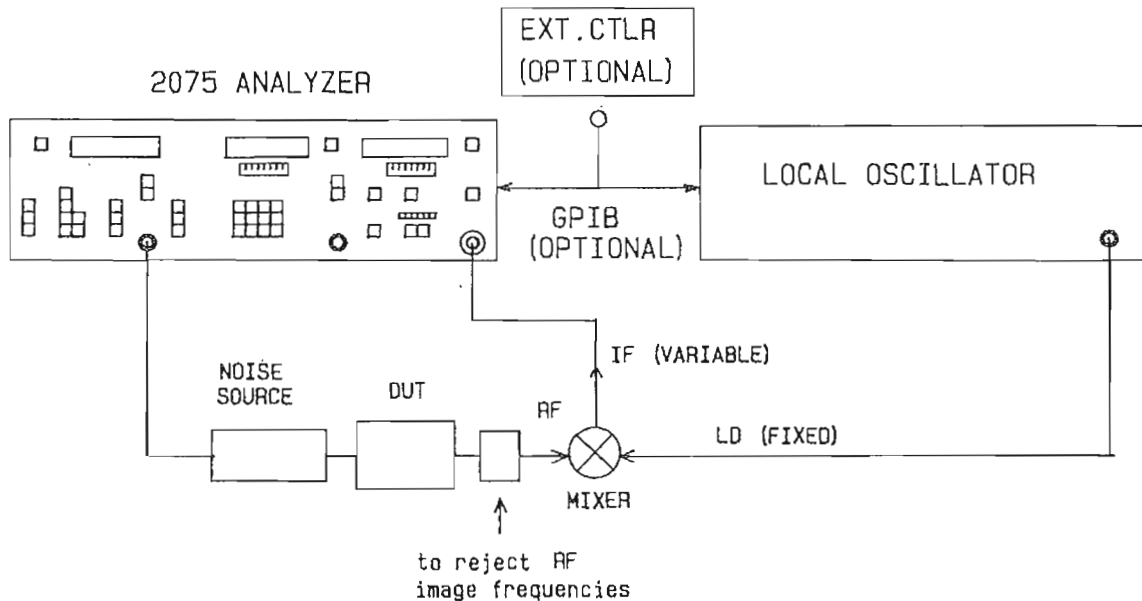

Figure 3-9b. TEST CONFIGURATION 3 MEASUREMENT
19. Insert the Device Under Test into the setup, as shown in Figure 3-9b. If external relays are being used, ignore this step. Upon completing the calibration, the 2075 removes the actuating voltage from the relays to place the DUT in the measurement path (unless Special Function 10.1 has been activated).